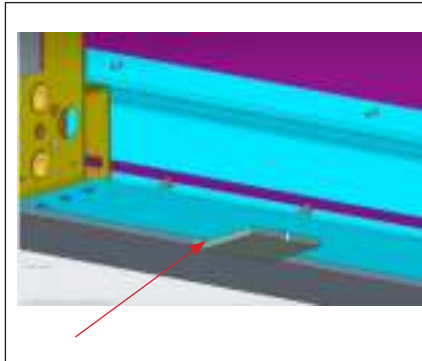

Figure 7: Shim Gap Between C-Clip and Display
- 4. Examine the lower end of the C-clip that is cradling the bottom of the panel. If necessary, place shim tape in the gap between the C-clip and the display. Refer to **Figure 7**.